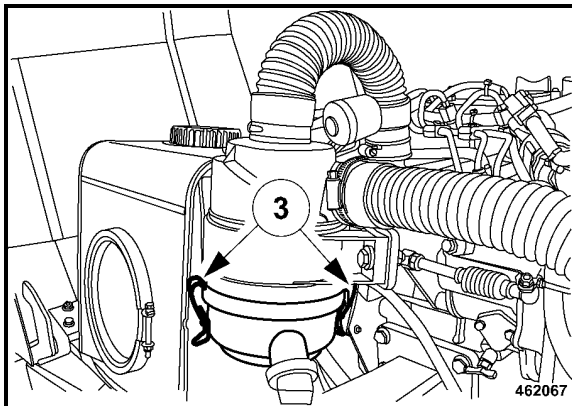

Fig. 127
- Insert the air filter cartridge, attach the housing cover and fasten with fastening clamps (3) (Fig. 127).